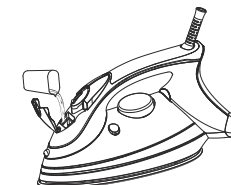

Fig.4
3. Using a cup, slowly pour tap water or distilled water into the reservoir as show in figure 4. Never to fill beyond the Max filling line.